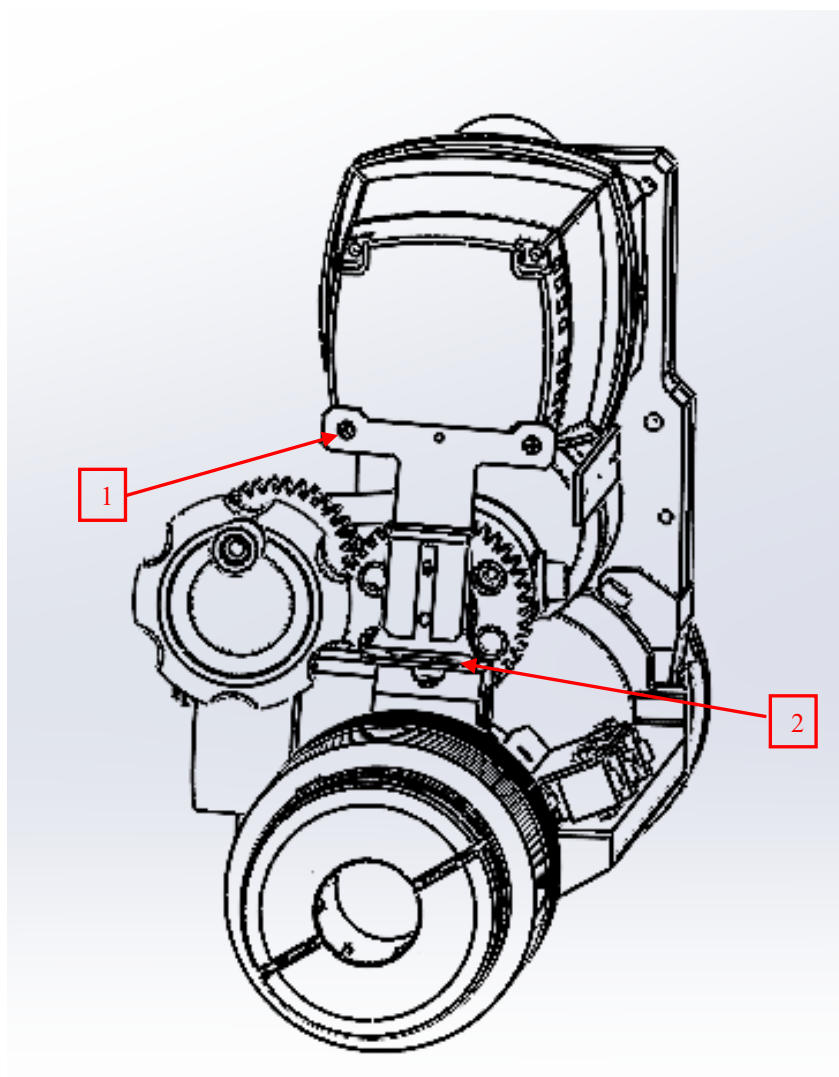

Figure 1.6
- 1.2.1 Proceed to remove the motor protection cover, unscrewing the four screws shown in figure 1.6 – position 1 and the 2 anchor screws as shown in figure 1.6 – position 2;